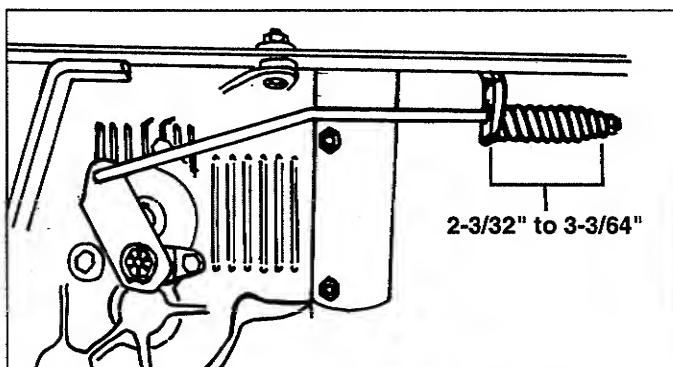

Figure 29. Brake Adjustment - Hydro Models
2. See figure 29. The brake rod spring should measure $3''$ ($2\frac{3}{32}''$ to $3\frac{3}{64}''$) when compressed. Turn the adjustment nut to achieve correct spring length.